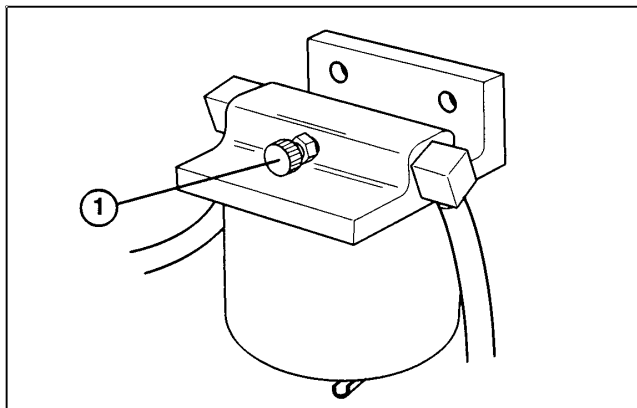

Figure 11
2. Loosen the air bleed screw on the fuel filter / water separator (Fig. 11).